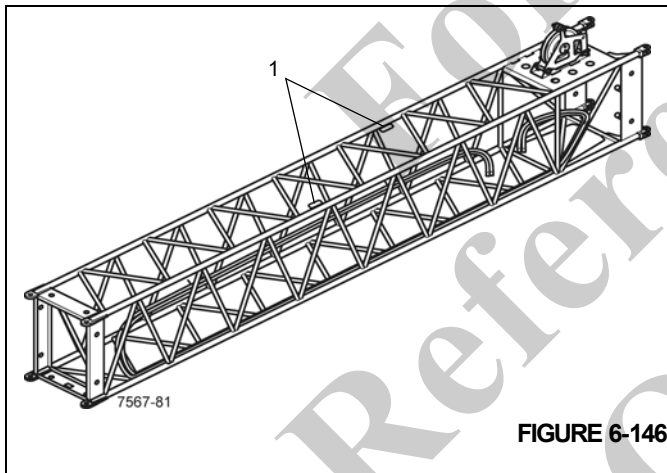

FIGURE 6-146
3. Connect a sling to the two lifting lugs (1), (Figure 6-146).
3. Connect a sling to the two lifting lugs (1), (Figure 6-146) and lift the insert enough to take the load off the connecting pins.